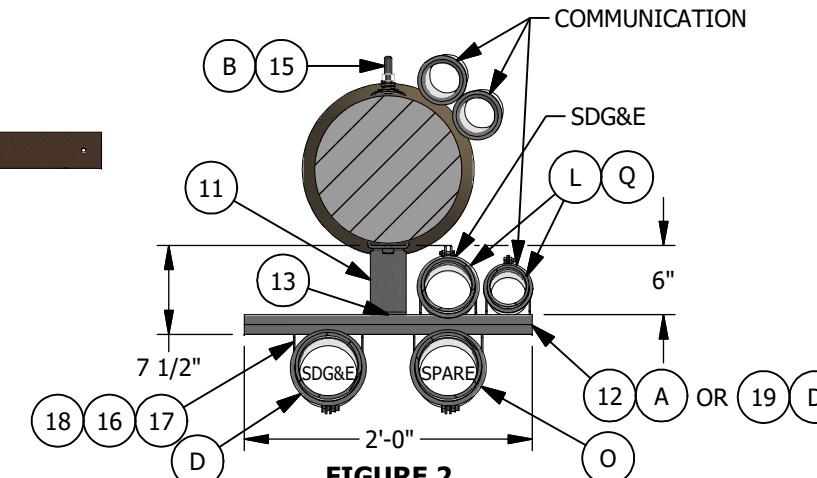

FIGURE 2
- (A) MOUNT FIRST BRACKET LADDER ARM NO LOWER THAN 9'-6". IF THE FIRST BRACKET EXTENDS TOWARD A STREET OR DRIVEWAY, OFFSET THE UNISTRUT CHANNEL TO CLEAR LARGE VEHICLES.
- (B) INSTALL AT LEAST ONE LADDER ARM BRACKET FOR EACH COUPLING JOINT OF CONDUIT - 10-FOOT MAX. DISTANCE BETWEEN BRACKETS. ALL LADDER ARM BRACKETS ARE TO BE ATTACHED TO THE POLE WITH BOLTS. NOT LAG SCREWS.
- (C) REFER TO INDIVIDUAL CABLE POLE STANDARD FOR CORRECT MEASUREMENT.
- (D) CENTER CONDUIT POSITION SHALL BE USED FOR MULTIPLE SDG&E SECONDARY RUNS OR SDG&E TELECOMMUNICATION CONDUIT. OTHER CONDUIT POSITIONS ON THE FRONT OF THE BRACKET SHALL BE USED FOR A SINGLE OR DOUBLE CONDUIT. THE 8 INCH UNISTRUT CHANNEL (ITEM 19) MAY BE INSTALLED FOR A SINGLE RISER WHERE NO COMMUNICATIONS IS ANTICIPATED.
- (E) RISERS OF PLASTIC CONDUIT SHALL BE EPC-80 PVC SCHEDULE 80, FROM THE GROUND LINE TO A LEVEL NOT LESS THAN 8 FEET ABOVE THE GROUND LINE PER G.O. 95 RULE 54.6-E AND SDG&E CONDUIT SIZING REQUIREMENTS.
- (F) FOR SINGLE RISER CONSTRUCTION, SEPARATION OF PIPE STRAPS (ITEM 8) SHALL BE 3 FEET MAXIMUM.
- (G) USE FIGURE 2 FOR PREFERRED CONSTRUCTION FOR A SINGLE RISER